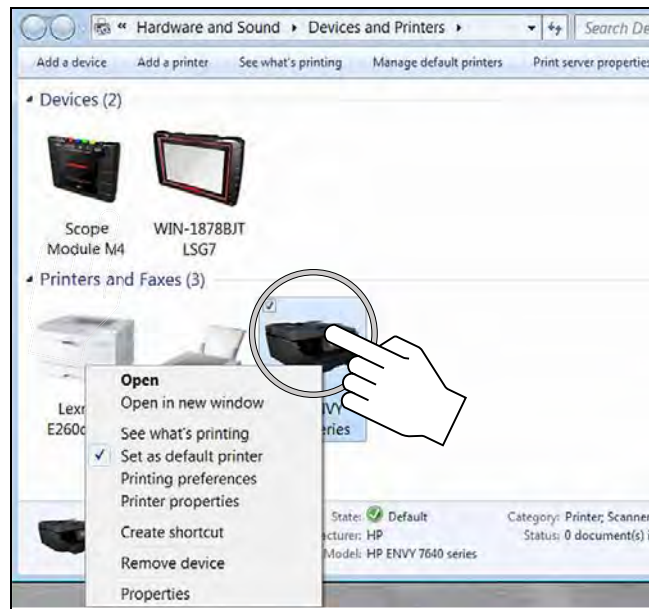

Figure 3-14
3. Touch and hold the icon of the printer you want to set as the default, until the optional menu indicator (circle outline) appears (Figure 3-14) and then release (this is also known as right-click menu). From the menu, select "**Set as default printer**". When set, a check mark is displayed next to the option (Figure 3-14).